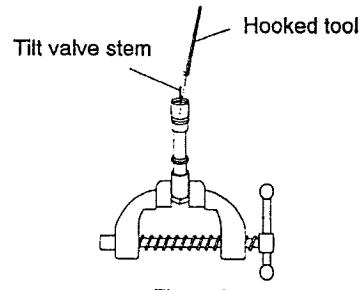

Figure 8
3. With the Inlet Bushing still in the vise, remove the Tilt Valve Seat Retainer (31) and Tilt Valve Seat Support (30). Use a hooked tool with no sharp edges to remove the Tilt Valve Seat (29) from the Inlet Bushing. See Figure 8.